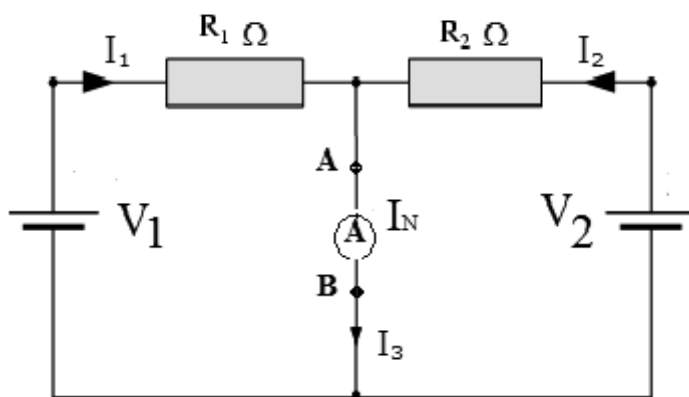

Figure 2
4. Connect the circuit as shown in circuit diagram of figure 2.
6. Switch ON both voltage sources  $V_1$  and  $V_2$  and note down the current through the short terminals A and B (i.e.  $I_N$ ). As shown in figure 2.